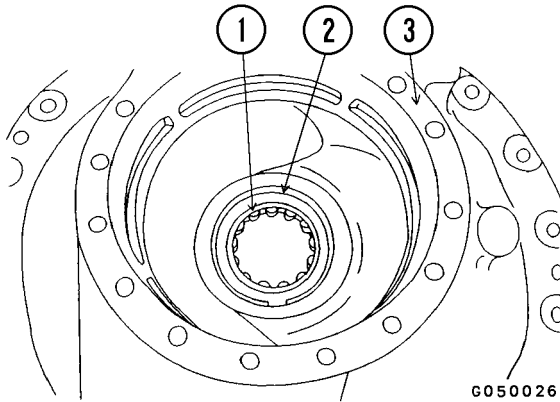

FIGURE 5-23. DIFFERENTIAL BEARING
- Remove snap ring (2, Figure 5-23). Remove bearing (1) from differential case (3).
- Using a push tool, press fit bearing (1, Figure 5-23) in differential case (3). Install snap ring (2).